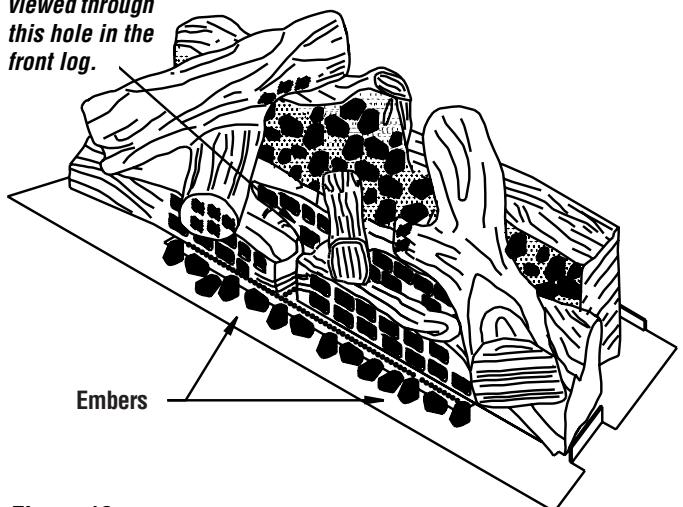

Figure 13
8) **Figure 13** shows the entire log set assembled. The embers provided may be placed one high in front of the front burner tube using care not to cover all the burner ports. Any extra embers may be placed at the ends of the front log, off the burner. Place small pinches of rockwool on top of the embers.